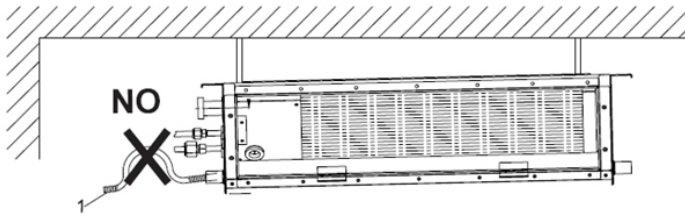

fig. 13
- Ensure a minimum slope towards the downflow side to prevent water stagnating in the tray, see Fig.13.